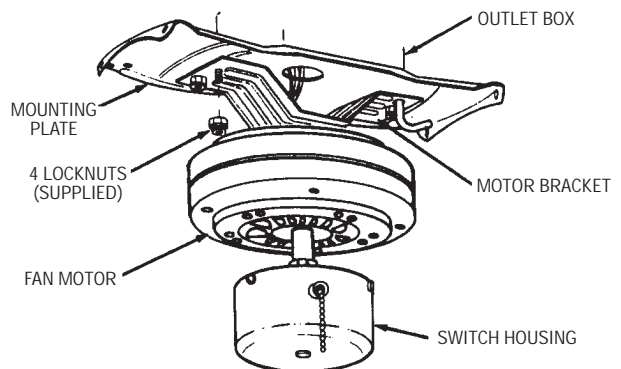

Figure 4
4. Once wiring is completed, lift the motor bracket so that the four threaded studs on the mounting plate protrude through the four slots in the motor bracket. (See Figure 4.)